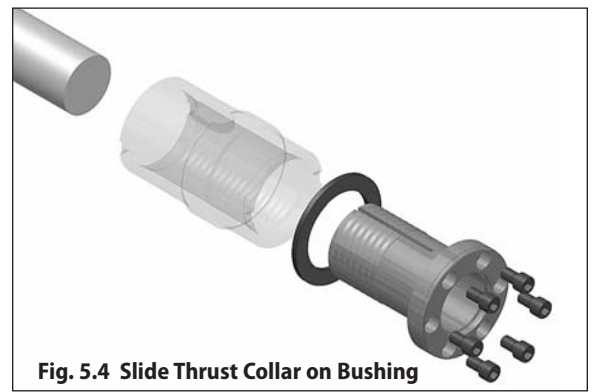

Fig. 5.4 Slide Thrust Collar on Bushing
Step 3 – Slide the thrust collar onto the Taper-Grip® bushing (see Fig. 5.4).